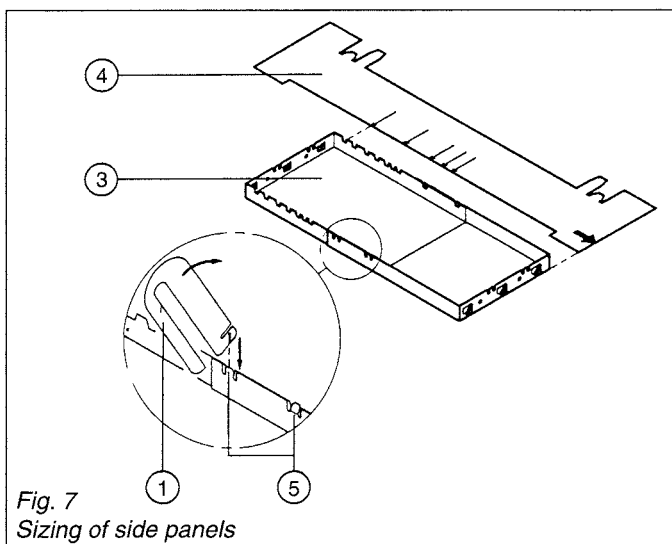

Fig. 7
2. Align cardboard template edge labeled "ANLEGEPUKNT →" with edge of side panel. Pull apart side panels ③ (2 pieces) and use cardboard template ④ to size according to the boiler size being installed (see Fig. 7).
3. Bend locking tabs ⑤ using installation key ①.
4. Slide side panels ③ fully into frame hardware ②.
5. Bend locking tabs ⑤ using installation key ①.
6. Using installation key ①, break tabs ⑥ off frame hardware ②.